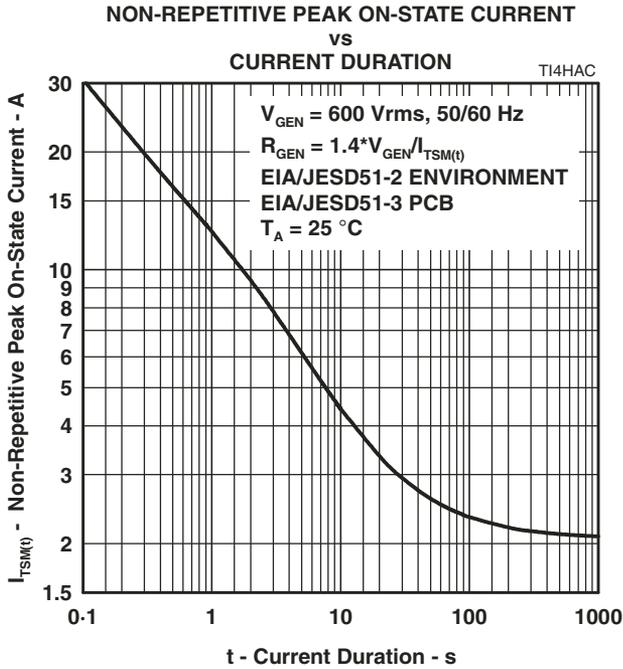

Figure 8.
5. EIA/JESD51-2 environment and EIA/JESD51-3 PCB with standard footprint dimensions connected with 5 A rated printed wiring track widths. See Figure 8 for the current ratings at other durations. Derate current values at $-0.61\text{ }^\circ\text{C}$ for ambient temperatures above $25\text{ }^\circ\text{C}$.
The protector can withstand currents applied for times not exceeding those shown in Figure 8. Currents that exceed these times must be terminated or reduced to avoid protector failure. Fuses, PTC (Positive Temperature Coefficient) resistors and fusible resistors are overcurrent protection devices which can be used to reduce the current flow. Protective fuses may range from a few hundred milliamperes to one ampere. In some cases, it may be necessary to add some extra series resistance to prevent the fuse opening during impulse testing. The current versus time characteristic of the overcurrent protector must be below the line shown in Figure 8. In some cases, there may be a further time limit imposed by the test standard (e.g. UL 1459 wiring simulator failure).